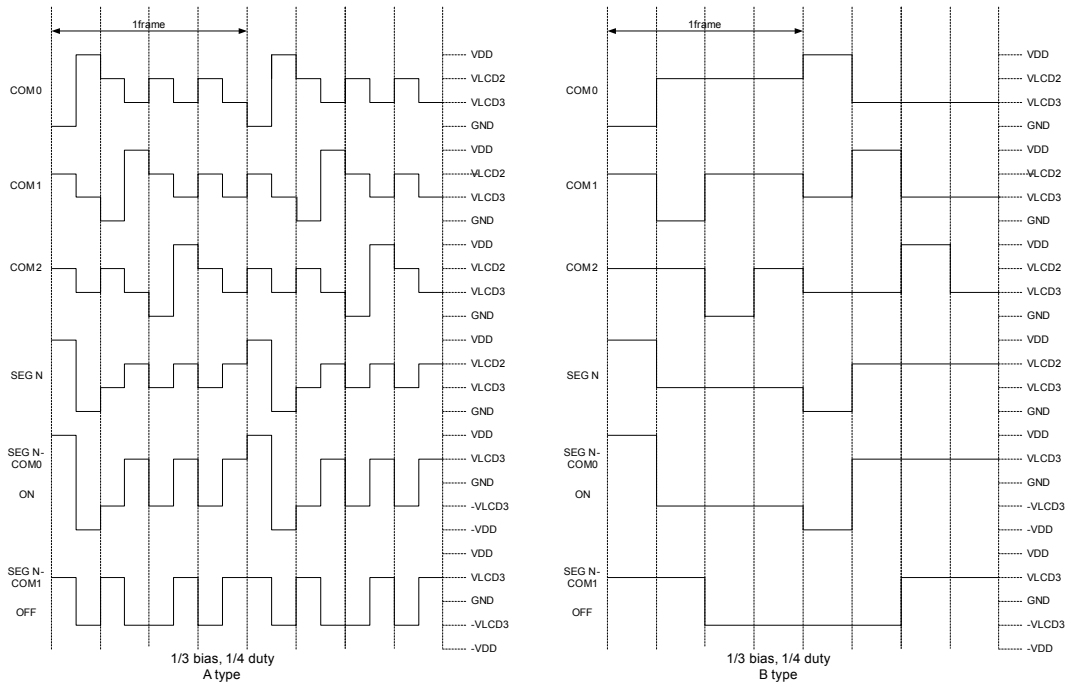

Fig. 21 LCD Waveform for 1/3 Bias, 1/4 Duty
This LSI can output infrared carrier in a friendly manner or in PWM standard waveform. The IR and PWM waveform generated functions include an 8-bits down-count timer, high-pulse width timer, low-pulse width timer, and IR control register. The IR system block diagram is show in Fig.21, The IROUT pin waveform is determined by IR control register (RE), IOC90 (Counter 1, 2 control register), IOCA0 (high-pulse width timer, low-pulse width timer control register), IOCC0 (Counter 2 preset), IOCD0 (high-pulse width timer preset register), and IOCE0 (low-pulse width timer preset register). Details on F_{carrier} , high-pulse time, and low pulse time are explained as follows: